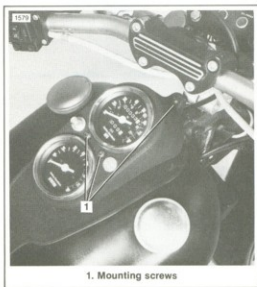

Figure 2-97. Instrument Mounting — FXB/FXSB/FXS/FXEF
1. See Figure 2-97. Remove the three mounting screws (1) and lift the instrument housing straight up.